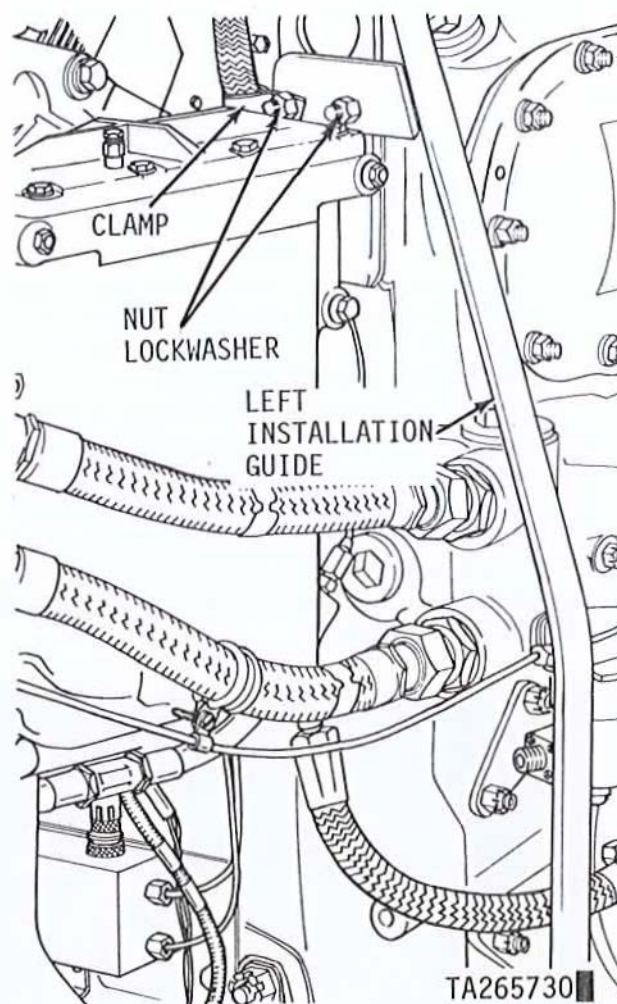

Figure 3-335. Installing left installation guide, model AVDS-1790-2C and AVDS-1790-2D engines.
(1) Install left installation guide (fig. 3-335) on damper housing and secure with two self-locking nuts and flat washers at bottom. Install hose clamp on fuel inlet hose and secure clamp and guide to damper housing with two self-locking nuts.